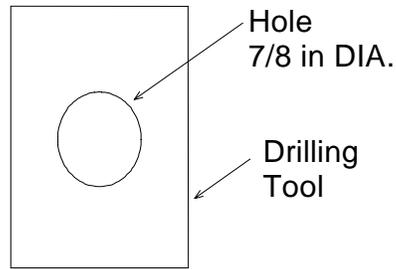

Figure 7
- 2.6 Use the piece of 2X4 (other scrap wood) to fabricate a drilling aid. The drilling aid will keep the wood shavings from getting in between the felt paper and the wood deck. To fabricate the drilling aid, use the 7/8-inch drilling bit to drill a hole in the middle of the piece of wood as shown in figure 7. Position the drilling aid over the center of the mark made in steps 2.1 to 2.5. Drill a 7/8-inch hole that will be used to feed wires through. **Note: Avoid rafters under deck. If this is unavoidable, drill through the rafter at an angle so the feed-through wires are able to clear the rafter.**